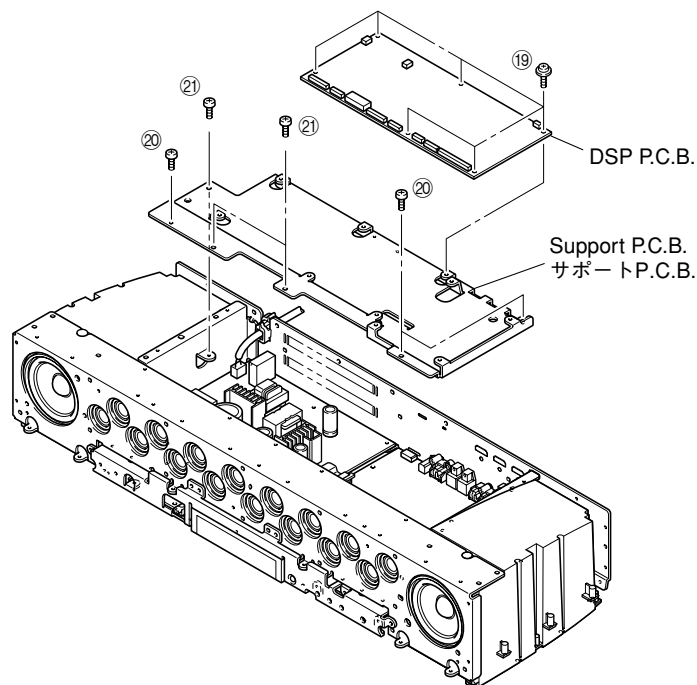

Fig. 5
- Remove 6 screws (19). (Fig. 5)
- Remove CB203-207 and CB601-607. (Fig. 5)
- Remove the DSP P.C.B.. (Fig. 5)
- 19のネジ6本を外します。(Fig. 5)
- CB203-207、CB601-607を外します。(Fig. 5)
- DSP P.C.B.を取り外します。(Fig. 5)
7. Removal of INPUT (1) and (2) P.C.B.s
* When replacing INPUT (1) and INPUT (2) P.C.B.s, be sure to replace them at the same time. Installing either P.C.B. of different version from the other may cause failure of operation.
- Remove 3 screws (20). (Fig. 5)
- Remove 3 screws (21) and then remove the binding tie. (Fig. 5)
- Remove the support P.C.B.. (Fig. 5)
- 20のネジ3本を外します。(Fig. 5)
- 21のネジ3本を外し、束線止めを外します。(Fig. 5)
- サポートP.C.B.を取り外します。(Fig. 5)